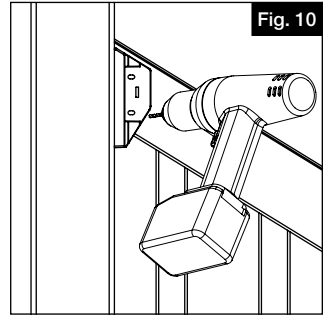

Fig. 10
For each installed bracket, pre-drill in the center of each elongated hole with a $\frac{1}{8}$ " drill bit (Fig. 10).
- Enlècher tous les barreaux dans la traverse inférieure (Fig.10).